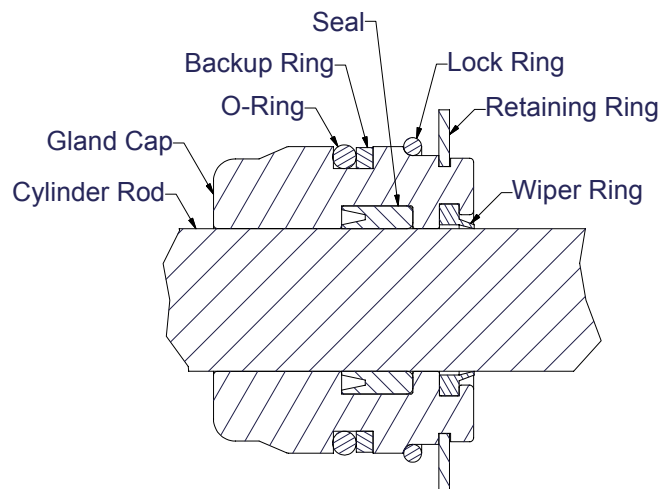

Figure 3-6, Gland Cap Seal
3. Install the seals and wipers in the gland cap. Note the direction of the seals. The cupped side or O-Ring side of the seal should be facing the piston. (Figure 3-6)